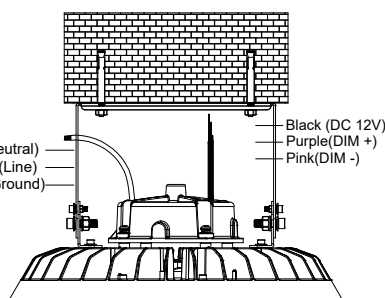

Figure 8
⑤ Turn off power, connect the wire as shown wiring diagram. (Figure 8)